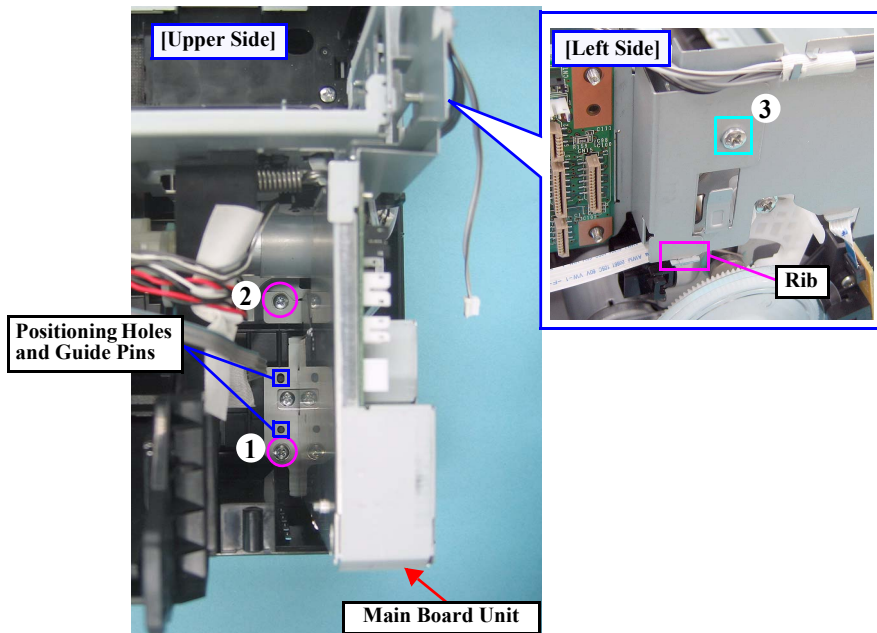

Figure 4-19. Removing the Main Board Unit (2)
- Match the positioning holes with guide pins shown in Fig.4-19.
- Insert the rib of the Main Board Unit into the positioning hole of the Cable Holder Frame as shown in Fig.4-19.
- Tighten the screws in the order given in Fig.4-19.